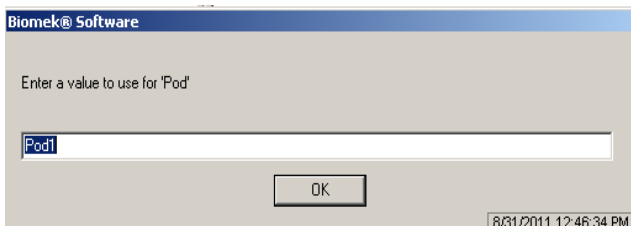

Figure 4. Selecting the Pod.
- The next prompt to pop is shown in Figure 4. The default is Pod1, so just click OK.